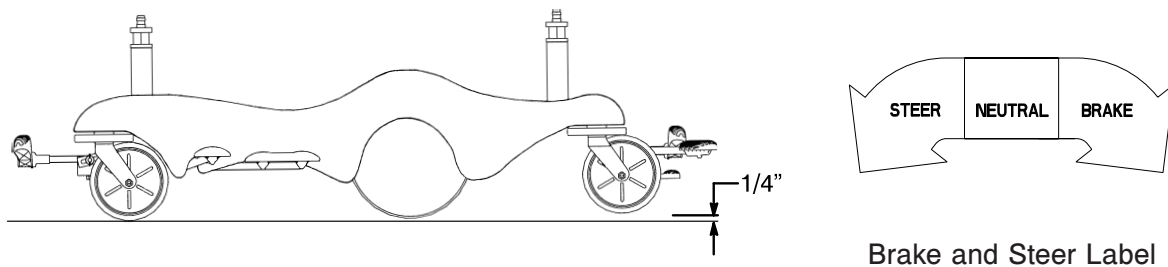

Figure 3.2: Steer Position
**When the brake/steer pedal is in the steer position**, the foot end casters are elevated approximately 1/4" and the stretcher rests on the two head end casters and the two Big Wheels® as shown in Figure 3.2. This provides increased mobility and ease of steering the stretcher.